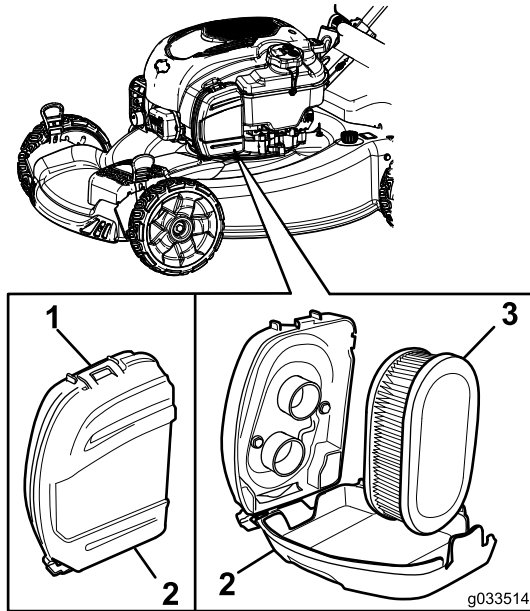

Figure 31
1. Unclip the top of the air-filter cover (Figure 31).
2. Remove the air filter (Figure 31).